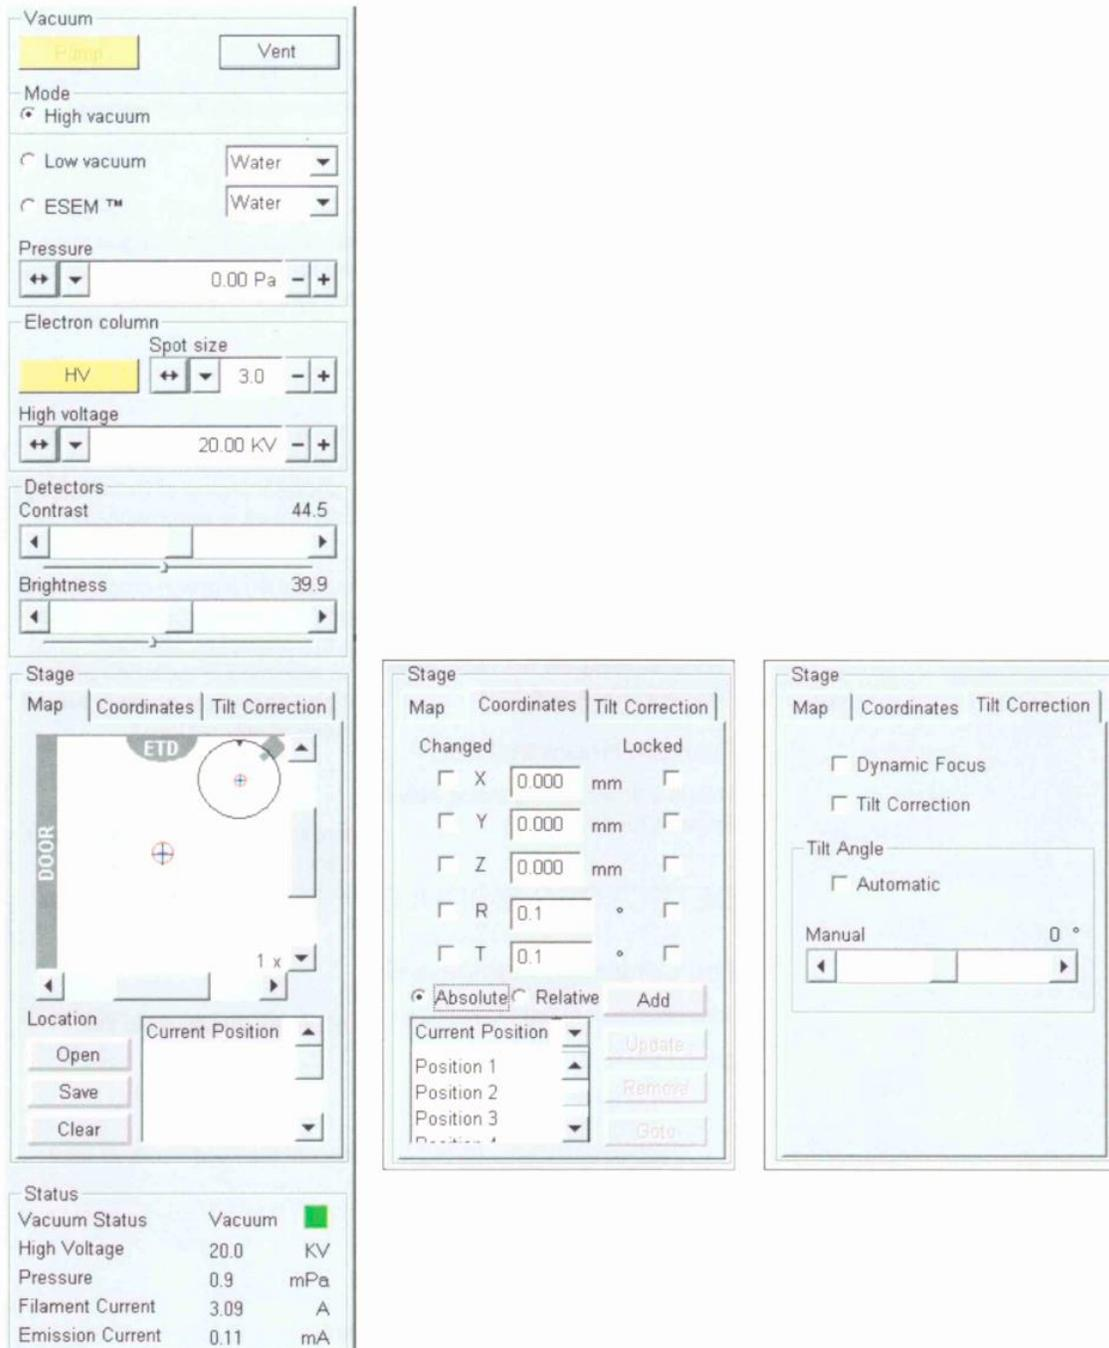

Fig. 1 The **Work Page**, located on the right side of the xT Microscope Control window.
2. Computer User Interface (UI)
The SEM is controlled by means of a Windows-based user interface (UI) program, called xT Microscope Control. This program should normally be left running (Fig. 1).